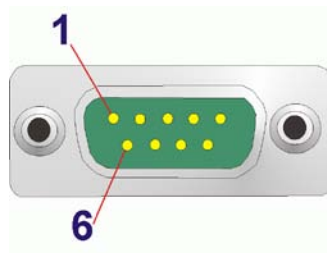

Figure 3-24: Serial Port Pinouts
- CN Pinouts: See **Table 3-23** and **Figure 3-24**